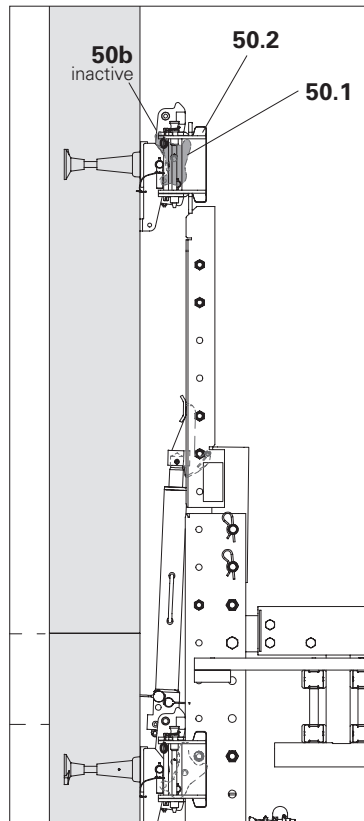

Fig. D6.12
2. Continue climbing until the climbing rail extension (7) threads into the climbing shoe (50b). (Fig. D6.12 + D6.13)